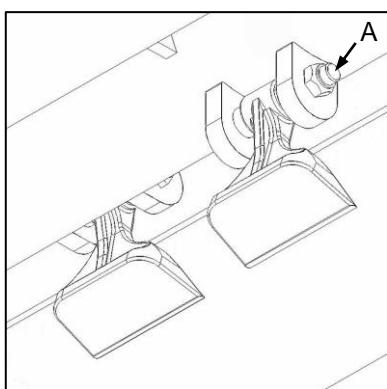
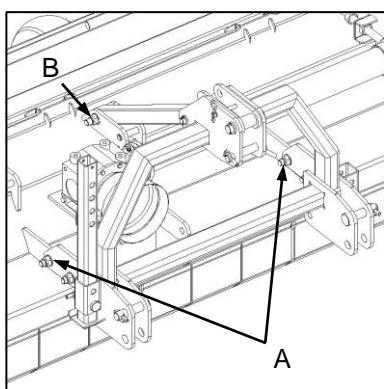
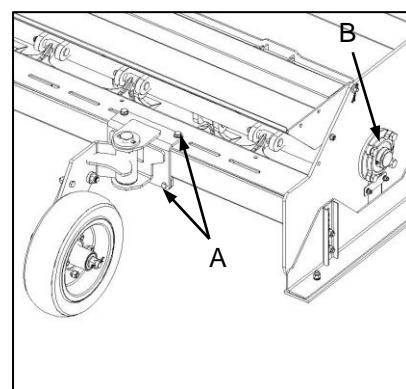

Fig. 4
Fig. 5
Fig. 6
- ✓ Check all fasteners for tightness. Pay special attention to safety-critical fasteners such as blade bolts and nuts (Fig. 4-A), hitch frame mounting bolts (Fig. 5-A / B), rotor mounting bolts (Fig. 6-A) and wheel mounting bolts (Fig. 6-B).
- ✓ Verseker dat alle hegstukke vas is. Gee spesiale aandag aan veiligheidskritieke hegstukke soos lemboute en lemmoere (Fig. 4-A), haakraammonterboute (Fig. 5-A / B), rotormonterboute (Fig. 6-A) en wielmonterboute (Fig. 6-B).